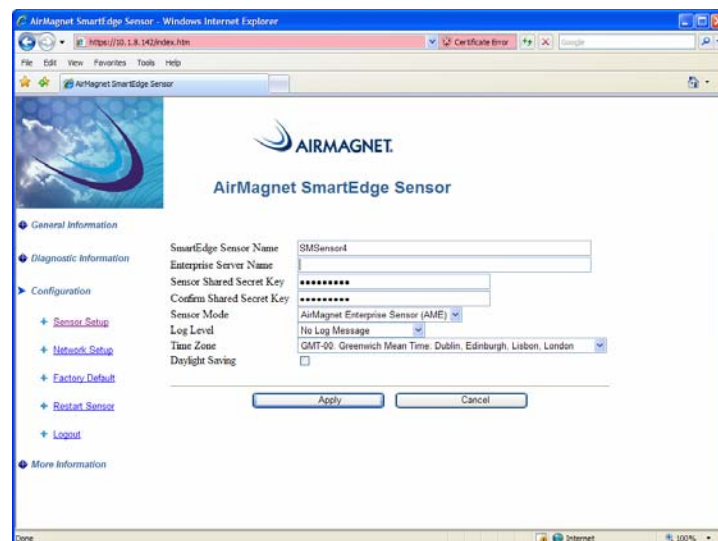

Figure 2-17: AirMagnet SmartEdge Sensor page (3)
- 14) Click **Sensor Setup**. The Sensor Information Page refreshes. See Figure 2-17.